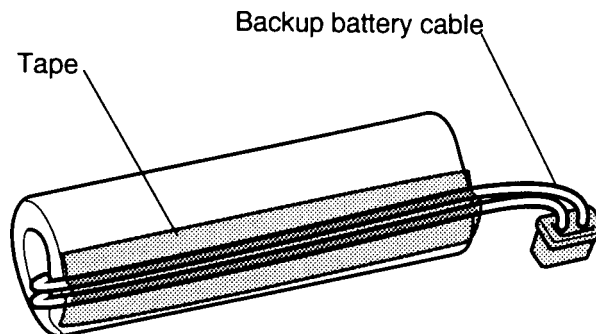

Figure 4-19 Securing the backup battery cable
2. Secure the **backup battery cable** with **tape**. Part of the cable is wrapped under the battery's green plastic cover. When you tape the cable, be sure it is aligned with the part that is under the green cover (Figure 4-19).